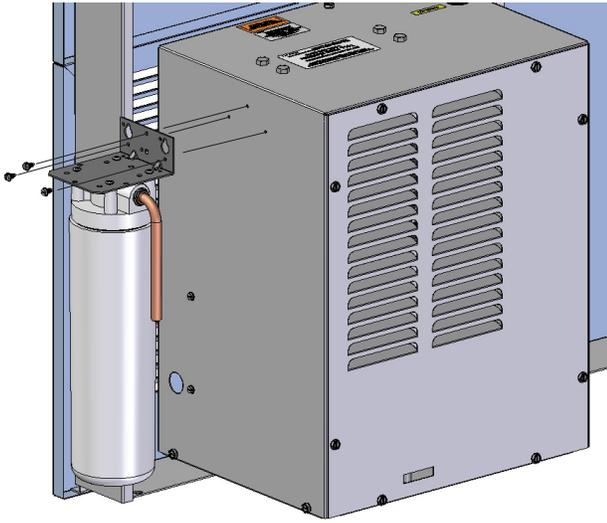

Figure 4 – LZWS-ERFP8-RF Filter Mounting (not required with EZWS-ERFP8-RF)
4. **(For LZWS-ERFP8-RF)** If an existing filter is not present, install filter bracket on chiller (Fig 4), then install the filter head to the bracket, plumb from the filter outlet to the chiller inlet with ¼" poly tubing and ¼ x ¼ union, install filter.